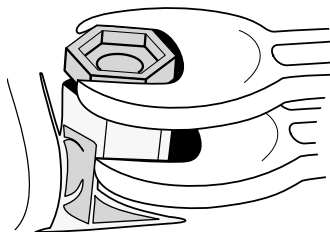

Figure 6
- 6.1.2. Hold a wrench across the flats of the inlet connector assembly to prevent damage to the connector, and unscrew the inlet filter (Refer to Figure 6).